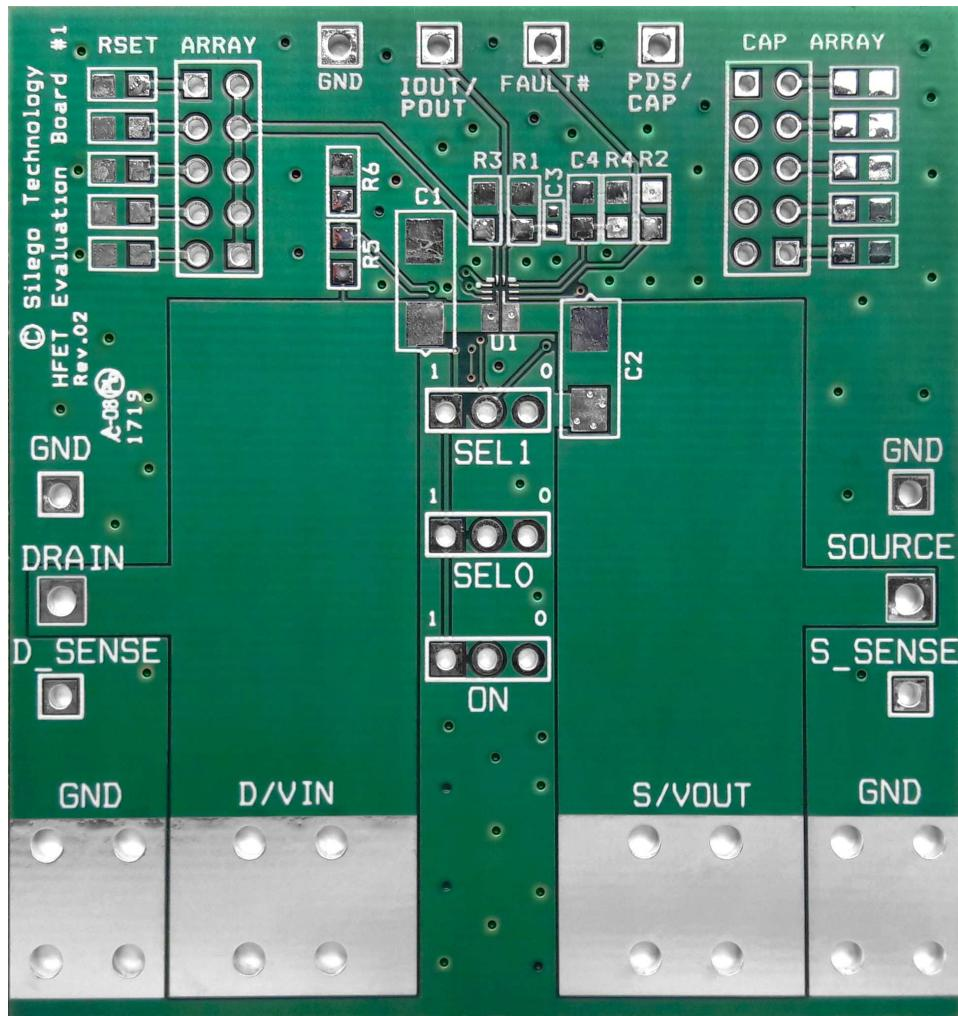

Figure 17. SLG59H1006V Evaluation Board
1. Since the VIN and VOUT pins dissipate most of the heat generated during high-load current operation, it is highly recommended to make power traces as short, direct, and wide as possible. A good practice is to make power traces with an absolute minimum widths of 15 mils (0.381 mm) per Ampere. A representative layout, shown in Figure 17, illustrates proper techniques for heat to transfer as efficiently as possible out of the device;
A High Voltage GreenFET Evaluation Board for SLG59H1006V is designed according to the statements above and is illustrated on Figure 17. Please note that evaluation board has D_Sense and S_Sense pads. They cannot carry high currents and dedicated only for RDS_{ON} evaluation.